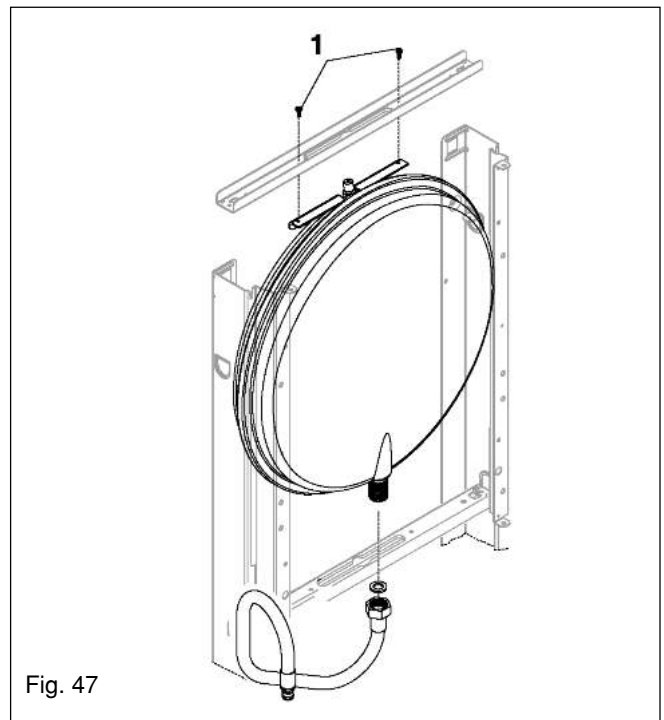

Fig. 47
Disconnect the flexible expansion pipe from the vessel (fig. 47). Locate and remove the four screws that secure the vessel top holding plate, remove the plate. The expansion vessel can now be removed. Replace in the reverse order. Ensure all seals are in good condition, taking care to ensure they are replaced correctly.
Locate and remove the 2-screws that secure the lower section of the air chamber. Locate and remove the 2-screws that secure the upper section of the air chamber. The complete air chamber assembly can now be lifted clear from the appliance. Disconnect the flexible expansion pipe from the vessel (fig. 47). Locate and remove the 2-screws that secure the vessel (1). The expansion vessel can now be removed. Replace in the reverse order. Take extreme care when refitting the wiring to the air chamber. Ensure all seals are in good condition, taking care to ensure they are replaced correctly.